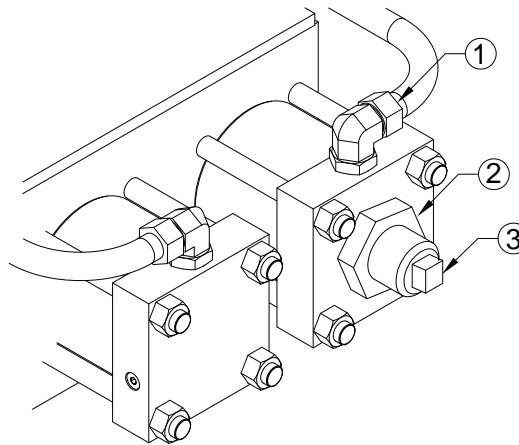

Figure 5.5 Stroke Adjustment
4. Locate the hydraulic fitting (1) connected directly to the stroke adjuster cylinder cap as shown in Figure 5.5. Loosen this fitting to allow oil to escape during this adjustment process.